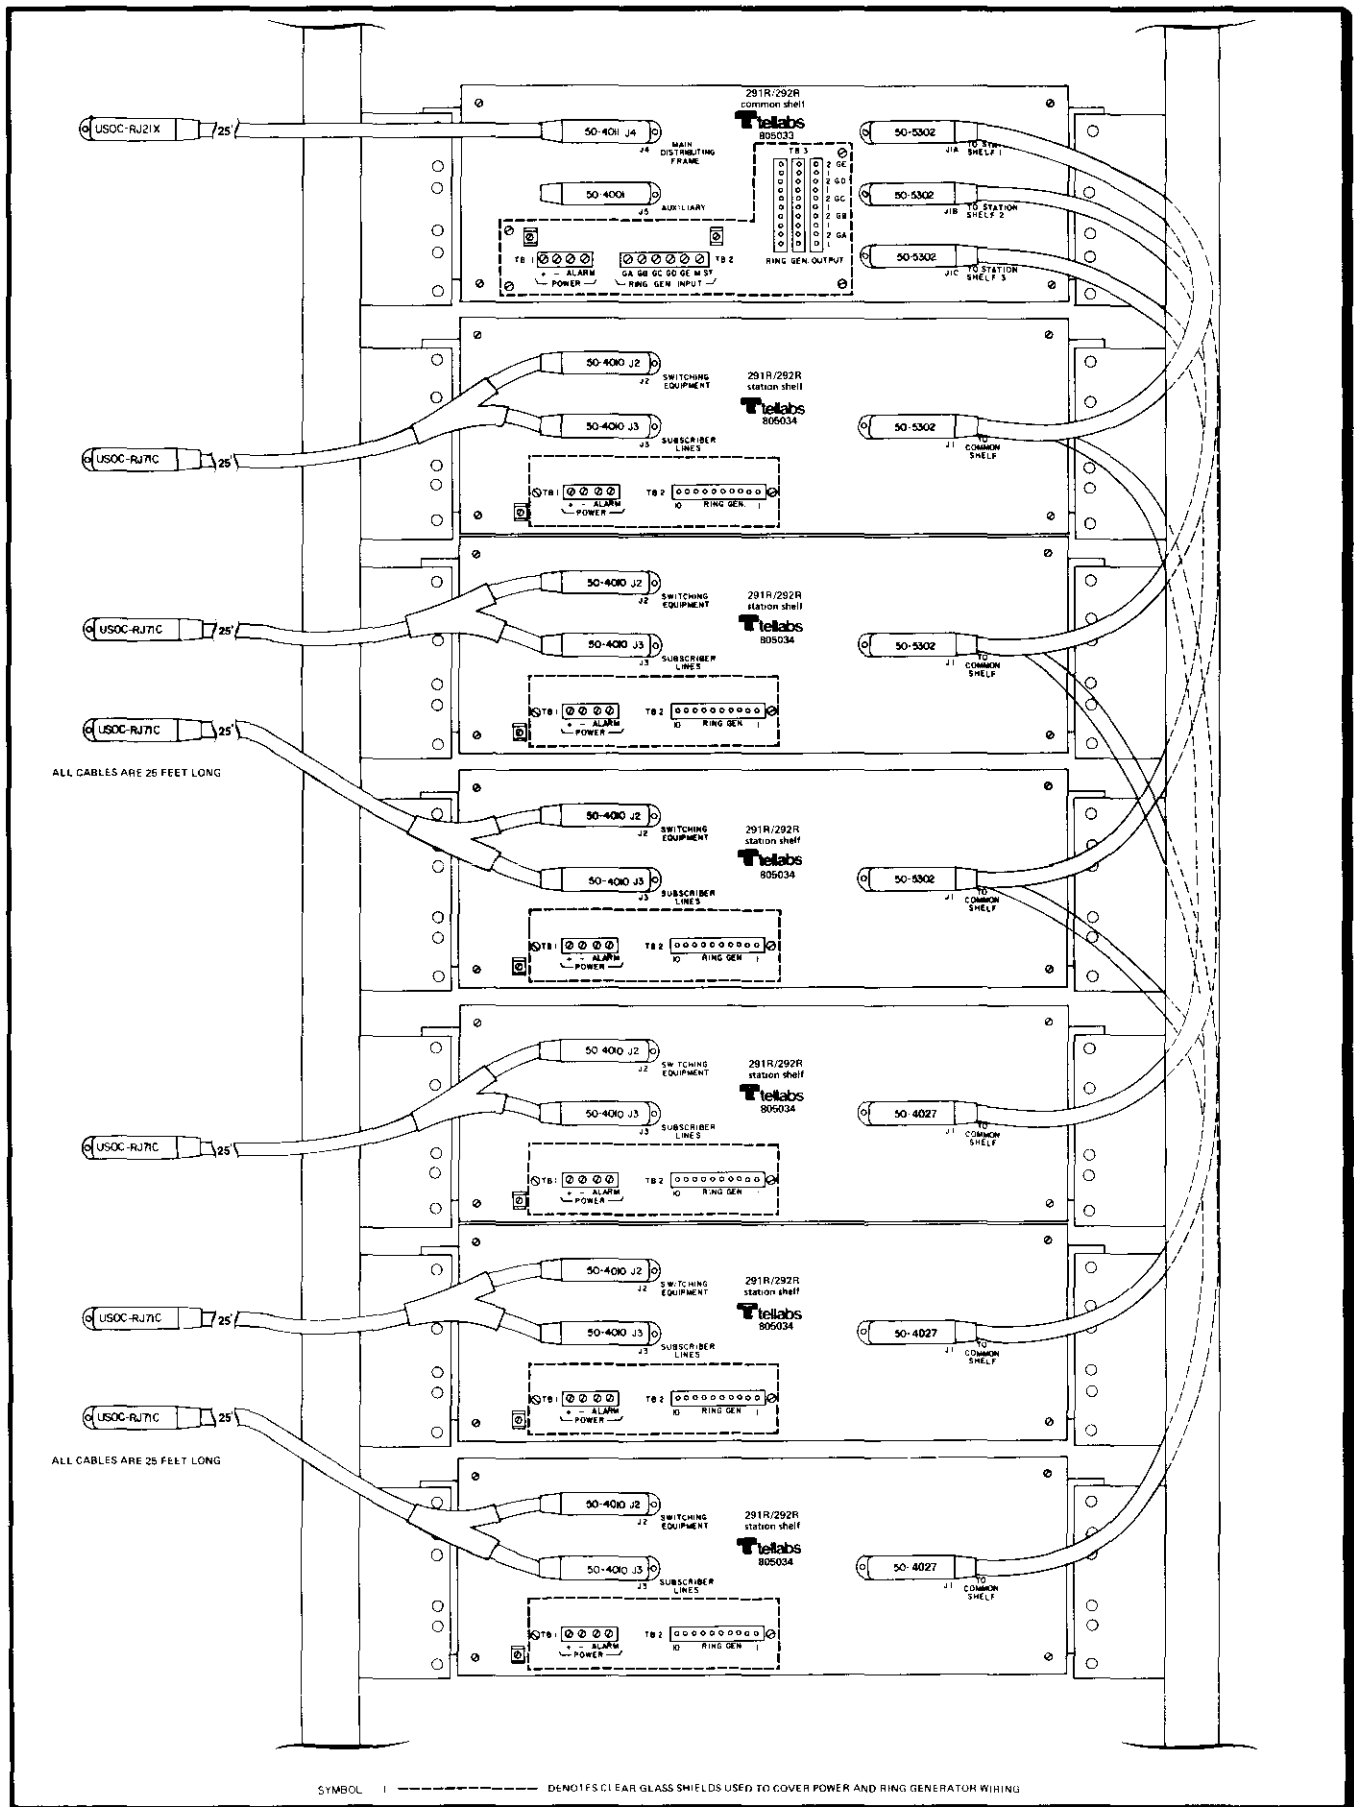

figure 19. Typical 60-line 292R System
2.35 When a 292R System is expanded beyond 30 stations, one Y cable (Tellabs part number 50-4027) is provided for each 10-station increment. The Y cable has a male plug at one end and a dual connector (plug and receptacle back to back) on the other end. Figure 19 shows a typical 60-line System. In this application, Y cables are connected from *J1* of station shelves 1, 2, and 3 to *J1* of station shelves 4, 5, and 6, respectively. Also, 50-5302 cables are connected from *J1* of station shelves 1, 2, and 3 to *J1A*, *J1B*, and *J1C*, respectively, on the common equipment shelf.